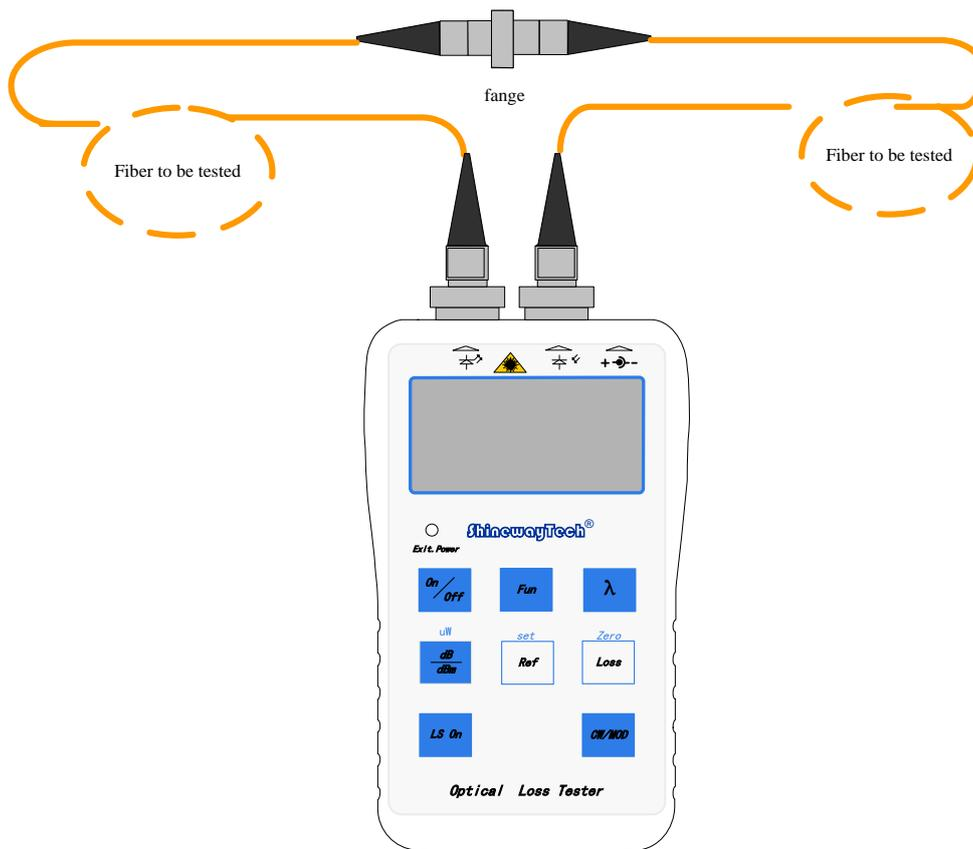

FIGURE 27. TESTING CONNECTION OF OPTICAL LOOP LOSS TESTER
1. Connect optic link to the instrument, as in Figure27.